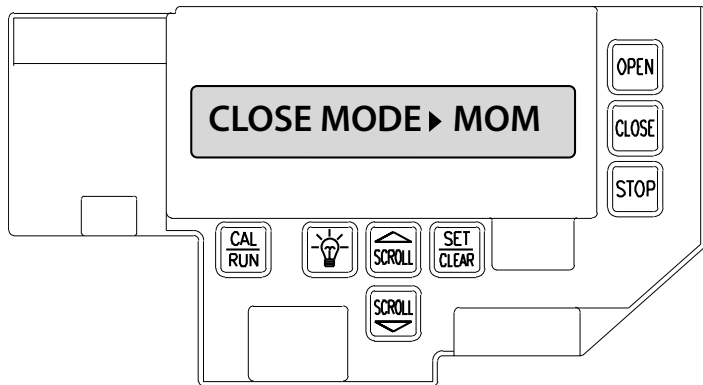

Fig. 4
3. Press SCROLL (DN) until display reads "CLOSE MODE." Fig. 4.